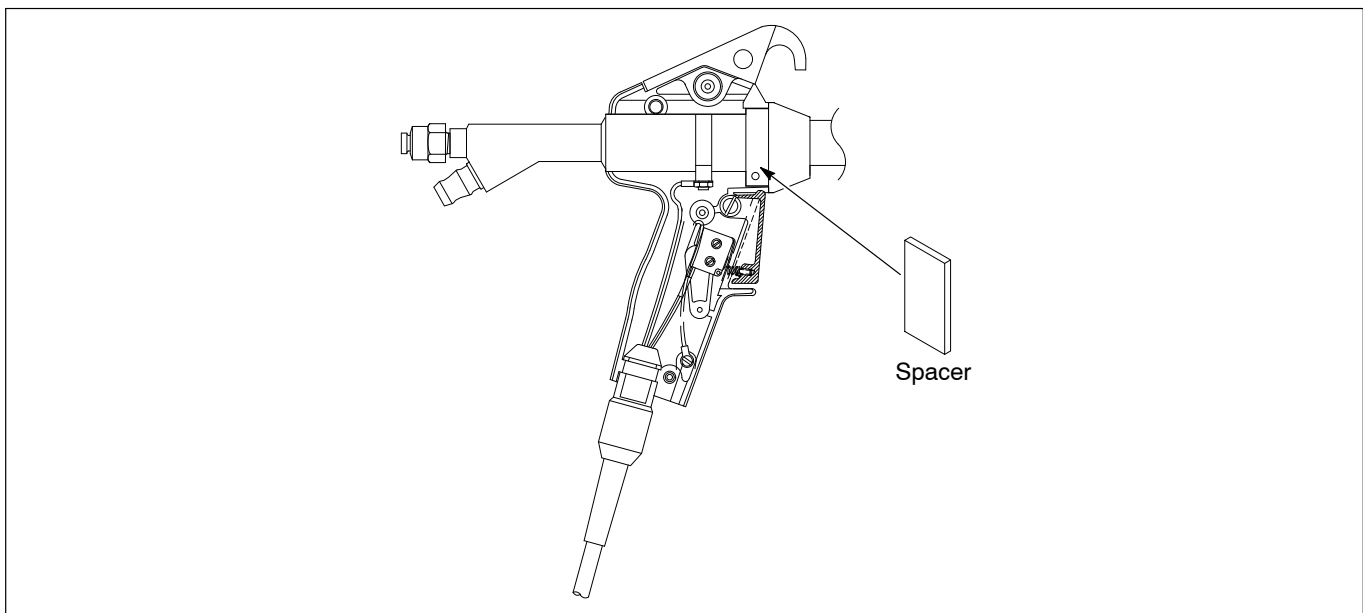

Figure 2 Handle Spacer Installation
1. Loosen the three set screws (2) on the cover (4).
2. Separate the cover (4) from the left handle (3).
3. Remove the spray gun body (1) from the handle (3).
4. Clean the flats (5) of the body extension (6) with a mild solvent, such as isopropyl alcohol.
5. Install new spacers on the flats (5) of the body extension (6), as shown in Figure 2.
6. Reinstall the body extension (6) to the left handle (3).
9. Tighten the three set screws (2) .